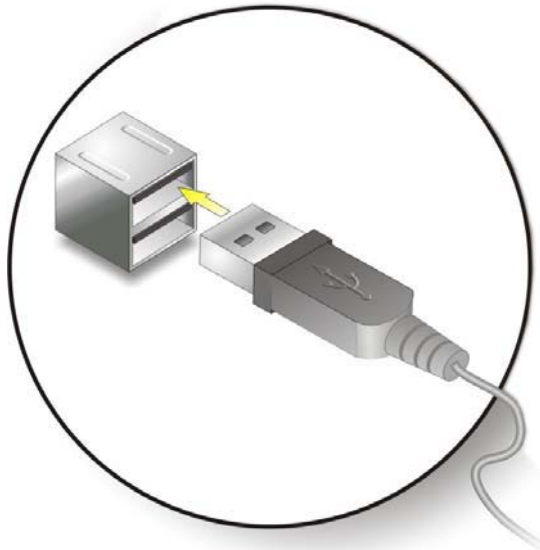

Figure 5-21: USB Connector
Step 2: **Insert a USB Series "A" plug.** Insert the USB Series "A" plug of a device into the USB Series "A" receptacle on the external peripheral interface. See **Figure 5-21**.